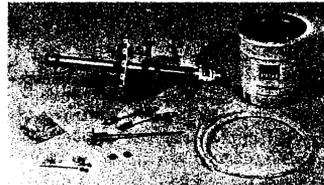

FIGURE 1
2.01 The G-180-LCR Pump Kit (Figure 1) consists of: a pump equipped with air input and fluid output assemblies, an empty 5 gallon cleaning container, a compound mixing assembly, 1 1/2" nylon fluid output (injection hose, No. 4 and No. 5 valve assemblies for attachment to the load coil case, a riser drain tube, a cleaning rod, a package of metal plugs, and a packaged assortment of nylon locking sleeves (for the special adapter fittings), nylon compression rings (for the nylon hose connection fittings) and pivot washers.